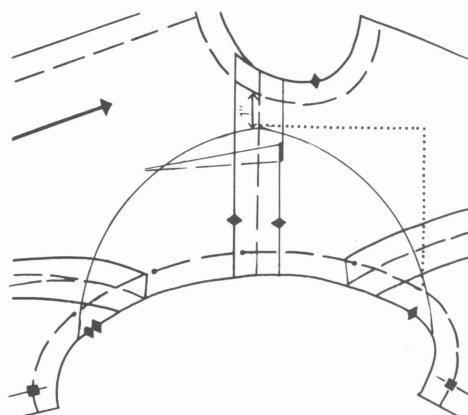

Figure 37. Making a pattern for shoulder pads.
4. Trace armhole cutting line (Figure 37).